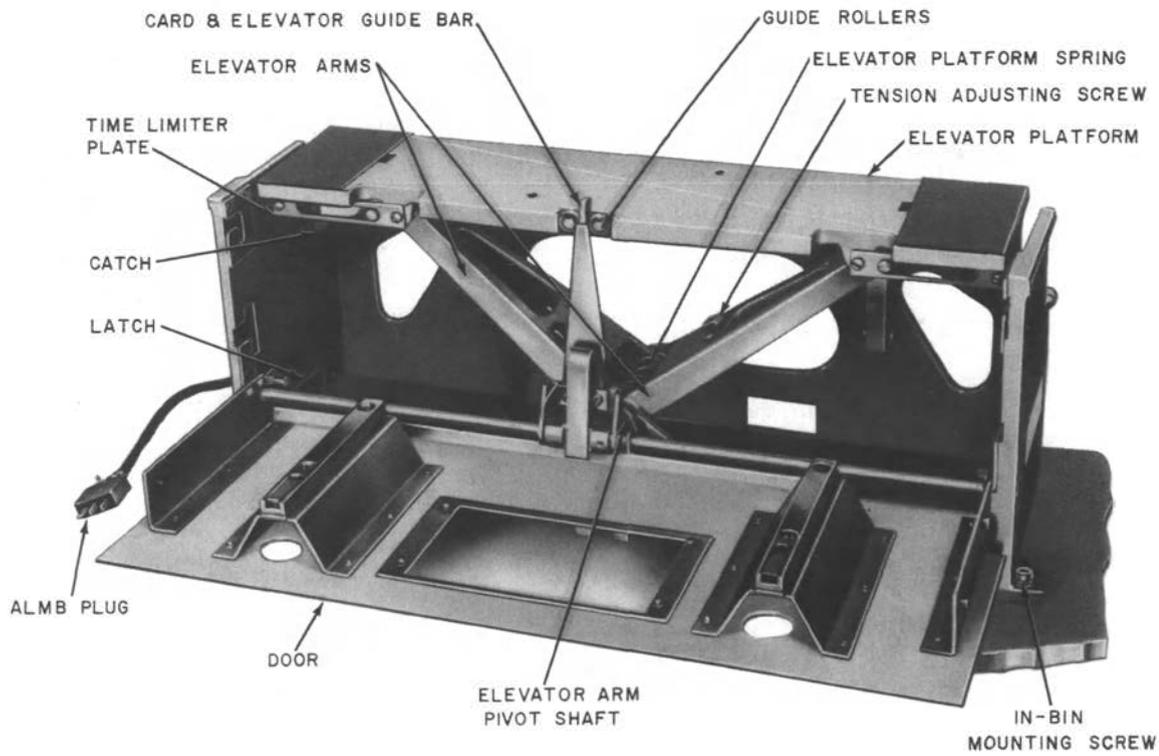

Fig. 39—KS-13907 In-Bin Assembly (Front View)
3.40 In-Bin: To replace the in-bin (Fig. 39), proceed as follows.
3.41 Elevator Platform and Associated Parts: To replace the elevator platform and/or associated parts (Fig. 39, 40 and 41), proceed as follows.
3.42 Elevator Platform Spring: To replace the elevator platform spring(s) (Fig. 39, 40, and 41) proceed as follows: